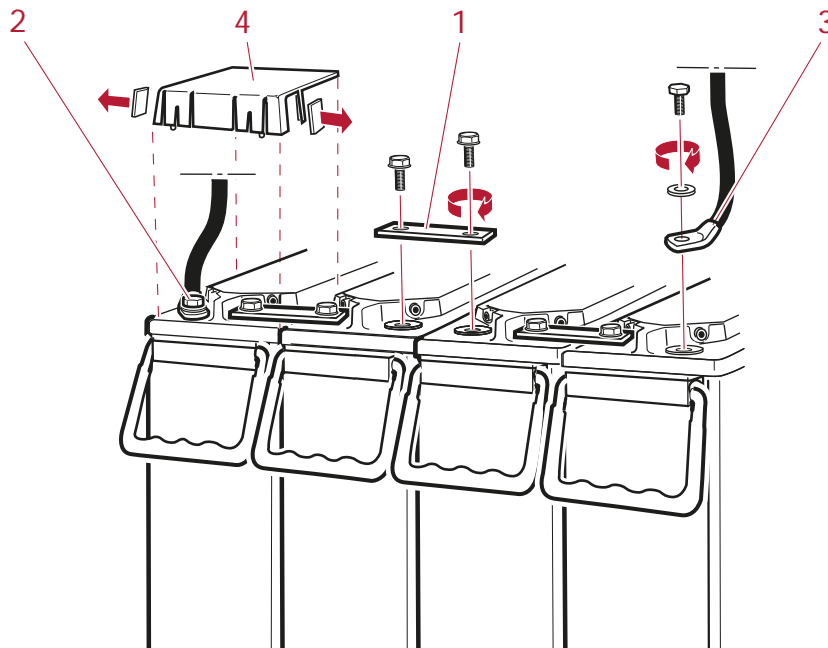

Figure 4-21 Battery Installation (Example only)
1. Attach interblock connections between the battery blocks (Figure 4-21, Detail 1).
2. Connect the negative “-” cable to the negative pole of the battery string (Figure 4-21, Detail 2). Tighten the connection to a torque of 5-6Nm.
3. Connect the positive “+” cable to the positive pole of the battery string (Figure 4-21, Detail 3). Tighten the screw to 5-6Nm.
4. Attach plastic pole protection caps to the battery poles (Figure 4-21, Detail 4).